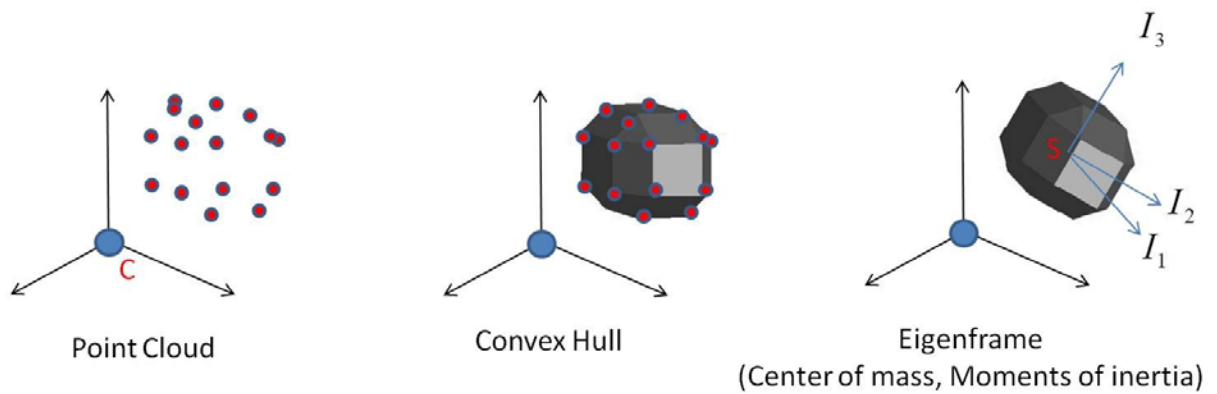

Figure 3.3: Rock is generated from a point cloud and converted into a rigid-body polyhedral.
Rock bodies are introduced into the simulation domain coordinate frame with origin (O) as a cloud of points based in a coordinate system of their own with origin (K). The coordinate frame (K) serves to map the rotations of the rock-body. Points are given in x, y, z format as \*.pts files, and can be artificially generated or gathered from a laser scan of rock deposits (Figure 3.1 and Figure 3.2). A convex hull of the rock-body's point cloud is created, in doing so an entirely convex body is created; concavities are closed over in the process. The next step is to calculate the center-of-mass of the body, for which the density is assumed homogeneous. Finally the inertial tensor of the body is calculated finding the three principal moments of inertia; the origin is the rock's gravity center (S). The translations of the rock-body in the simulation domain are mapped using coordinate frame S in relation to O (Figure 3.3). The rock's mass  $m$  is given from its volume calculated from the convex hull of the point cloud and a density  $\rho$  which is user defined (typically  $2700 \text{ kg m}^{-3}$ ). The rock has three translational (linear momentum) and three rotational degrees of freedom (spin) to describe the rocks mass center position  $q^T = (X, Y, Z)$  at any time  $t$  in the terrain coordinate frame O. Rotational motions capture the orientation of the rock's external geometry in space. At time  $t = 0$  the rock is released from position  $q_0^T = (X_0, Y_0, Z_0)$ , which, of course, must be located some distance above the terrain,  $Z_0 > Z_m$ , and thus the release height  $h_0$  is  $Z_0 - Z_m$ .